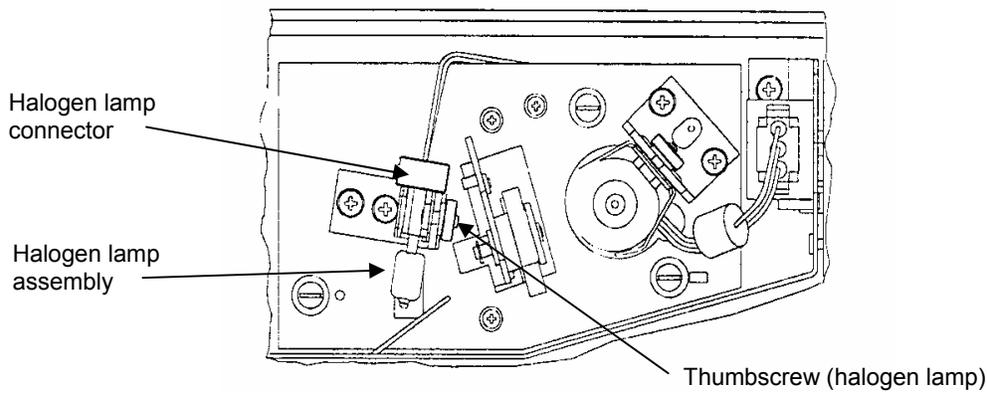

Figure 21 Removing the halogen lamp connector
4. Carefully pull the halogen lamp connector from the rear of the halogen lamp, as shown in Figure 21.